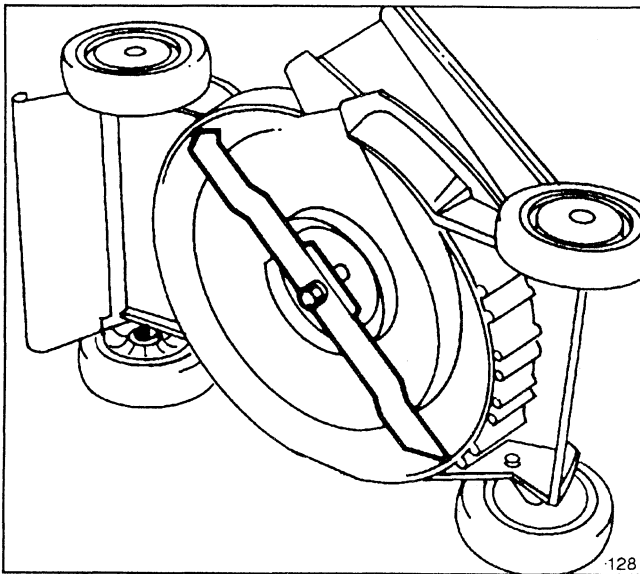

Figure 19
2. Tip mower on its left side (Fig. 19). Avoid rotating blade because starting problems may result.